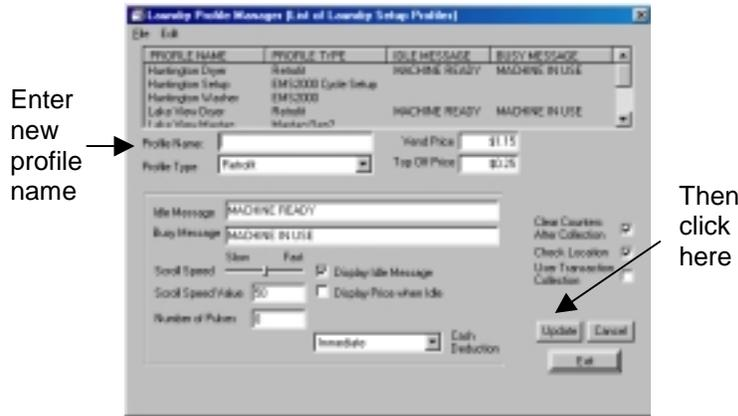

Figure 8.13 Completing the Cloning Process
4. Enter new machine identification in the Machine ID Record (Figure 8.13).
5. Click the Update button to save new machine record (Figure 8.13).